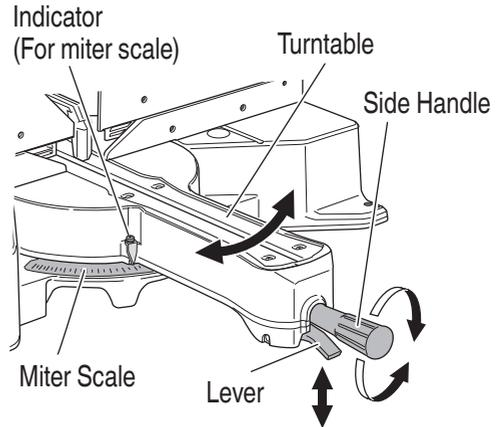

Fig. 23
- (1) Loosen the side handle and pull up the lever for angle stoppers. Then, adjust the turntable until the indicator aligns with desired setting on the miter scale (Fig. 23).
- (2) Re-tighten the side handle to secure the turntable in the desired position.
- (3) The miter scale indicates both the cutting angle on the angle scale and the gradient on the grade scale.
- (4) The gradient, which is the ratio of the height to the base of the triangular section to be removed, may be used for setting the miter scale instead of the cutting angle, if desired. Therefore, to cut a workpiece at a grade of 2/10, set the indicator to position.